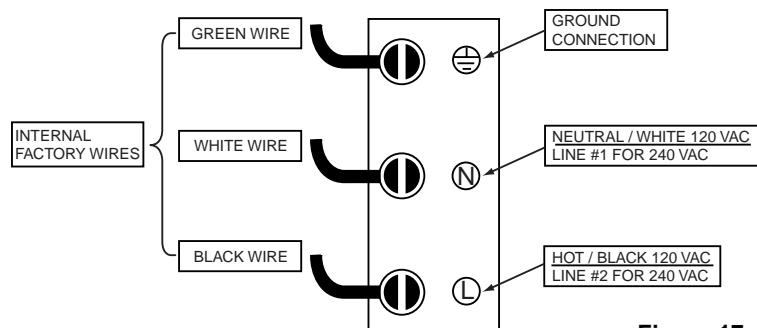

Figure 17.
- When connecting the power supply to the "Line Terminal Block" inside the junction box, follow the polarity as shown below. Connecting to 120 VAC, make sure that you connect the wire to the terminal (L), the neutral wire is connected to the neutral terminal (N) and the ground is connected to the ground terminal (GND); see below, Figure 17.